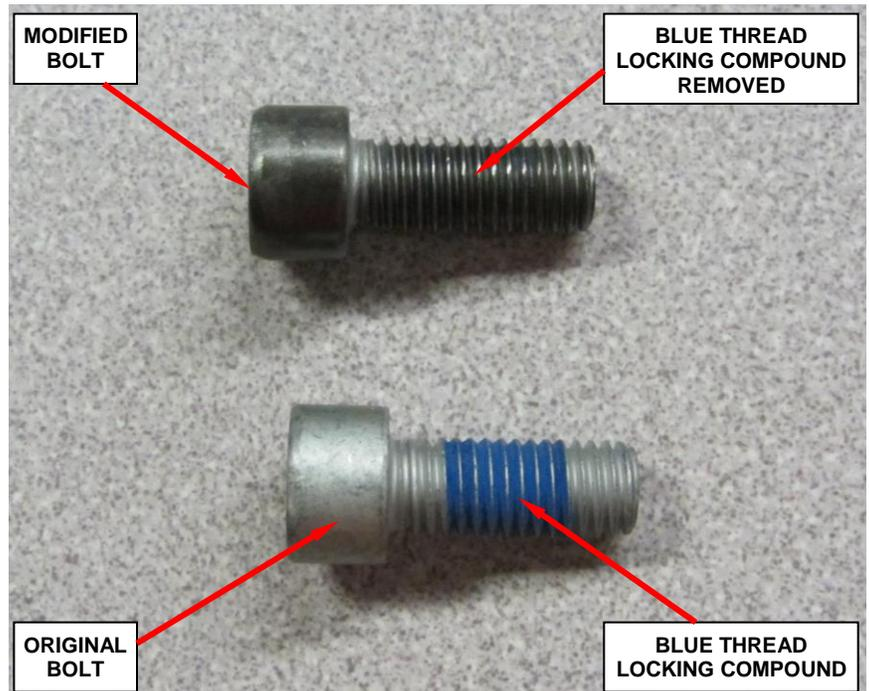

Figure 38 – Create Installation Tool
16. Create an installation tool from a M10-1.5 x 25mm bolt (P/N 06508295AA). Remove the blue thread locking compound from the bolt as shown in Figure 38. Install this bolt into one of the riv-nut holes finger tight.